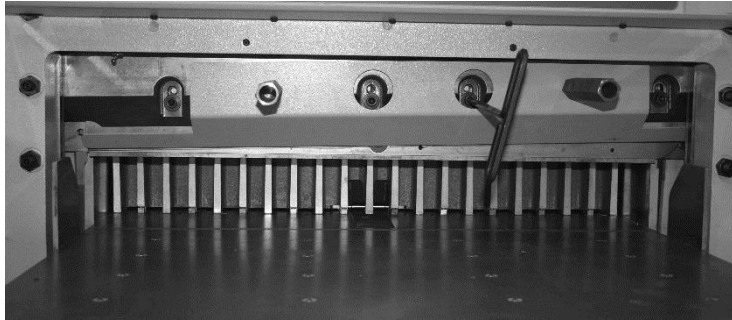

Figure 12
7. Remove the bolts in the two slotted holes of the knife bar and insert the knife lifter by screwing in the two knife lifter handles. Tighten the handles enough to hold the blade in place. Remove the remaining four bolts (Figure 12). The leftmost bolt must be removed while the knife bar is "UP".